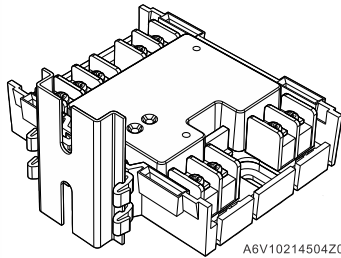

Fig. 2
- Installation on a DIN rail (Fig. 2), installation accessory FDCM291 needs to be ordered separately.
2. Press the module and mounting feet against the DIN rail until the feet snap into place (Figure 2).